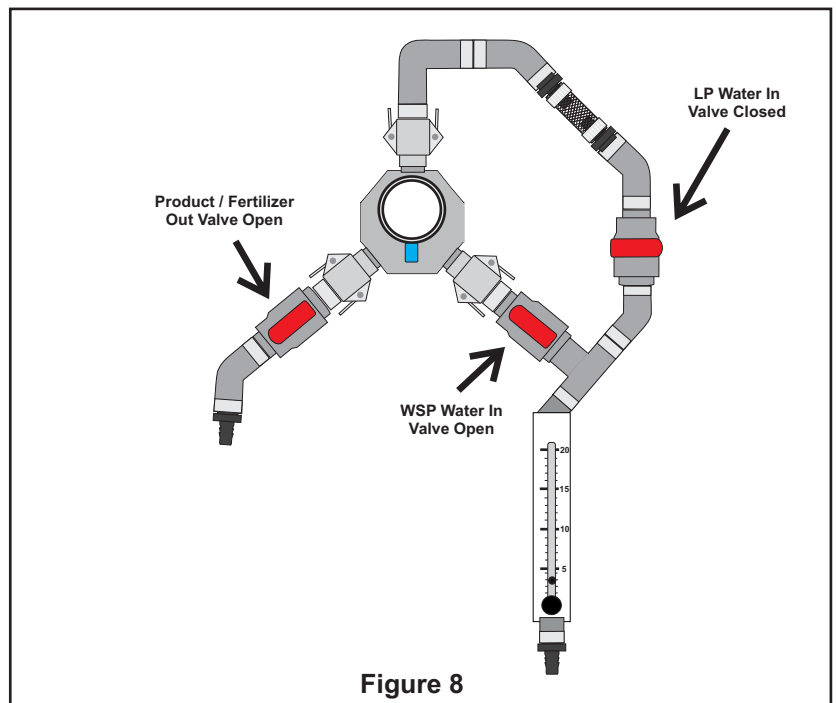

Figure 8
The EZ-FLO system has the ability to inject Water Soluble Powder products (WSP), Liquid Products (LP), or a combination of both. To change between LP and WSP products, the appropriate valve must be opened. In figure 8 below, the system is configured to deliver WSP products or product requiring heavy agitation. This setting continually agitates the solution allowing for very high concentrations of product to be placed in the system without the concern of plugging.
Step 1- Open the WSP Water In Valve as shown in figure 8. The valve is in the open position when the handle is in line with the valve body and piping.
Step 2- Close the LP Water In valve as show in figure 8. The valve is in the closed position when the handle is not in line with the valve body and piping.
Step 3- Open the Product / Fertilizer out valve as shown in figure 8.